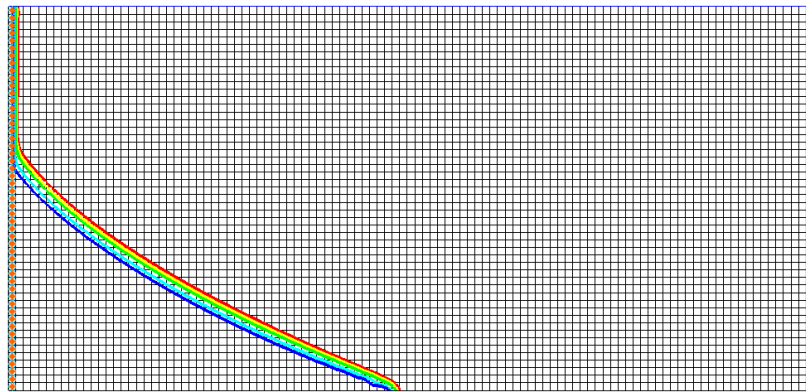

Figure 11 Time step 4 (after 15 minutes)
3. In the *Time Steps* window, select time step 4 (Figure 11).